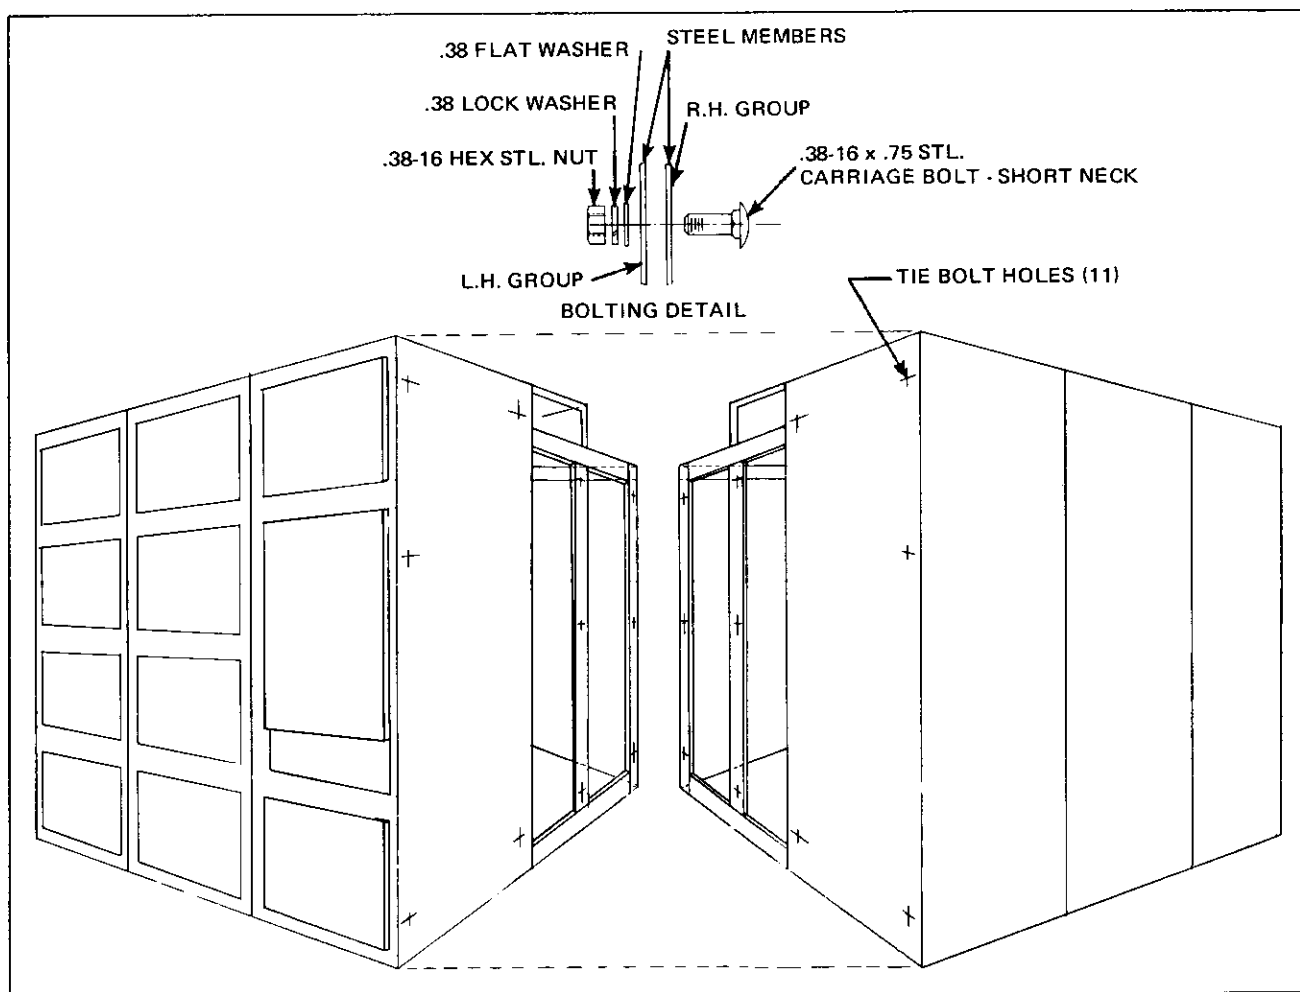

Fig. 36 Tie Bolt Locations for Joining at Shipping Break
After the first group has been located, the second group should be moved into position and similarly checked. The steel housings are fastened together at eleven (11) locations which are shown in Fig. 36. Special short neck .38-16 x .75 steel carriage bolts are furnished for this purpose. It will facilitate assembly to locate the bolt head in the right hand unit with the nut and washers in the left hand unit. These should be tightened to the torque as shown in Table 3 page 29.